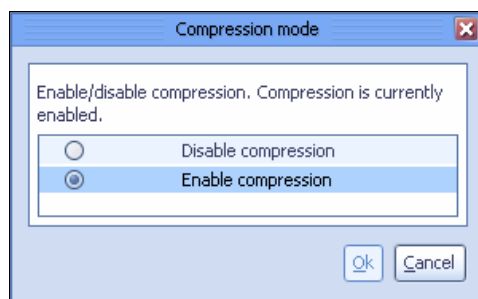

Figure 10-102 Compression mode window
1. Select **VT** → **VT Library** → **Set compression type**. The ProtecTIER compression mode window opens (Figure 10-102).